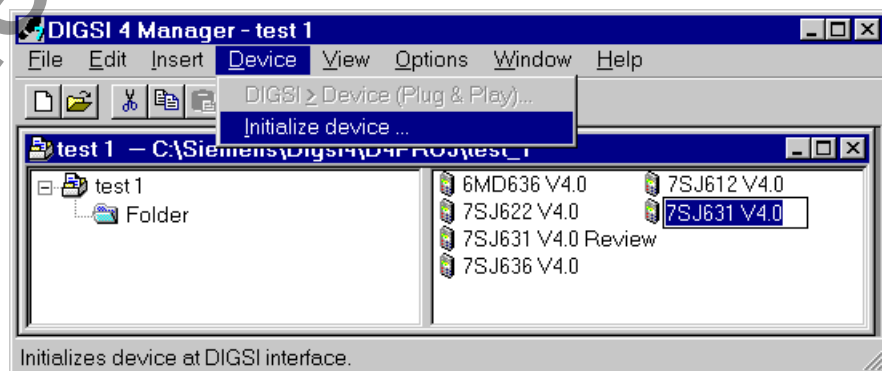

Figure 9-3 Initializing device via DIGSI® 4 — example
- ☐ Select **Initialize device** in the menu **Device** (Figure 9-3).